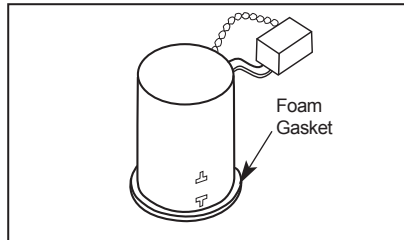

Figure 3
Step 2. Place the foam gasket on the top surface of the metal ring of the can (Fig. 3).